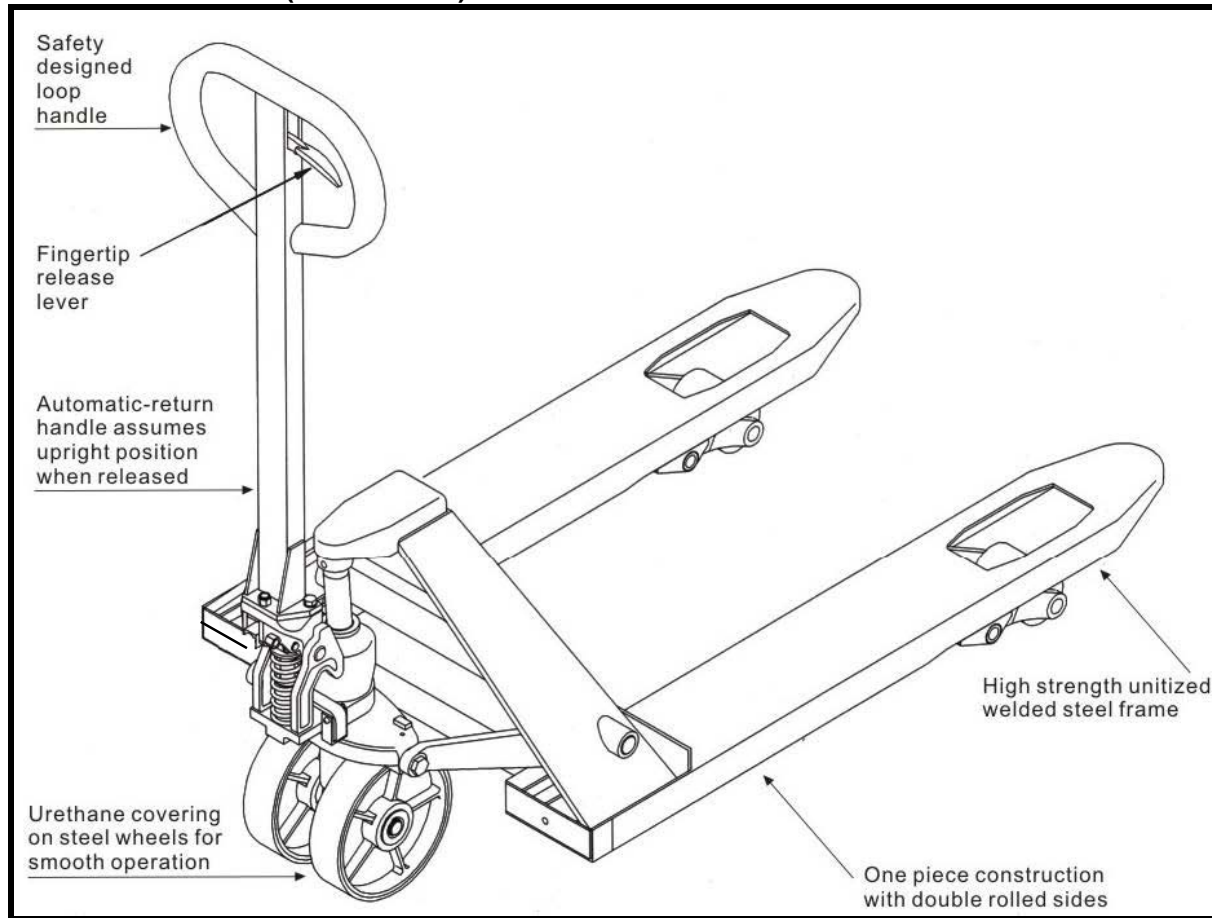

Figure 1
- 1) Use schematics and Figure 1 as a reference.
- 3) Remove (3) screws [Item 22] from handle base [item 23].
- 4) Holding handle [item 68] in one hand, and a screwdriver in the other, place the screwdriver in one of the 3 screw holes in handle base [item 23]. Pull on the screw driver so that the handle base [item 23] tilts back until the center hole in the handle [item 23] and axle [item 21] are aligned.
- 5) Slip chain [item 72] through both holes.
- 6) Replace 3 each screws [item 22] attaching handle [item 68] to handle base [item 23].
- 7) Pull up on lowering arm [item 35] and slip chain and nut assembly [items 72, 73] into slot. Nut [item 73] should be resting against underside of lowering arm [item 35].